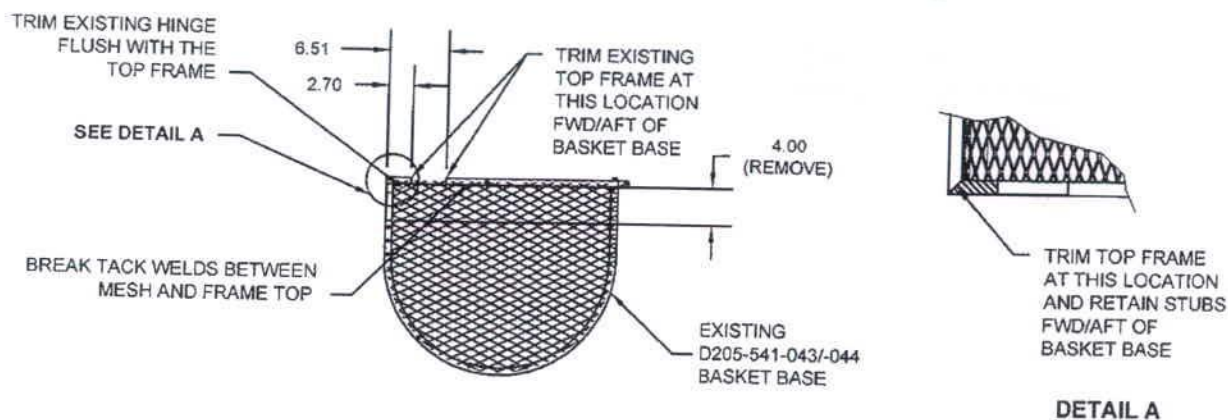

FIGURE 1. - FRAME TRIM DETAIL
4. Trim existing hinge pieces flush with the top frame of the basket base as shown in Figure 1
5. Break tack welds between mesh and frame in top of basket base as shown in Figure 1
6. Cut basket down by 4.00" (102mm) per Figure 1.
7. Trim frame for installation of basket hoops per Figure 1.